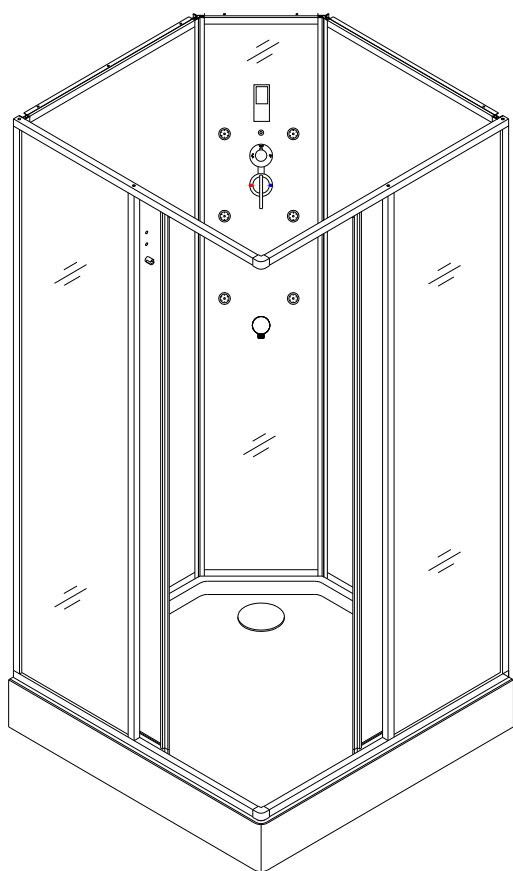
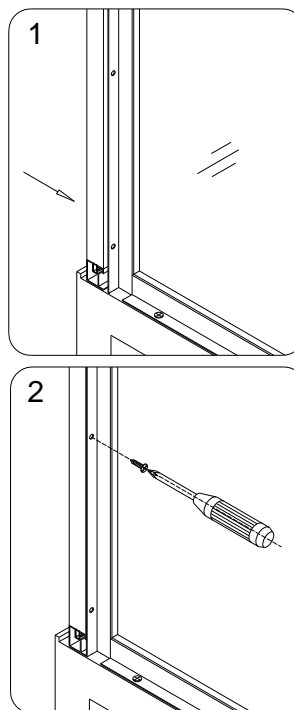

Fig 8
Fig 9
11. Put the shower enclosure assembly onto the tray. Drill holes on the glass profiles of the stationary glass; then secure them with **Round head screws ST4.2x16 (11)**. See Fig 8 and Fig 9 for details.